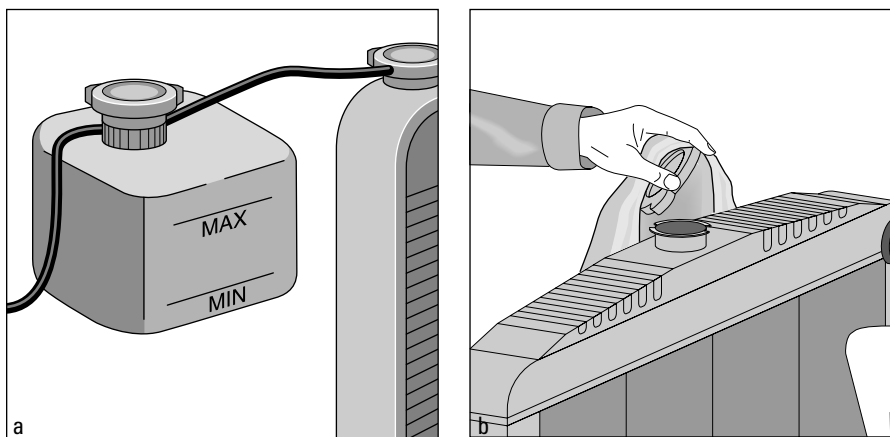

Figure 12-1: A coolant recovery reservoir (a) and a cap being removed safely from a radiator (b).
1. **Don't remove the cap on the radiator unless your vehicle has no plastic coolant recovery reservoir. (These days, almost every vehicle does; Figure 12-1 shows you what one looks like.)**
To keep from burning your hand, place a cloth over the cap after you raise the lever (see Figure 12-1). Then turn the cap counterclockwise to remove it.
Look at the *outside* of the reservoir to see where the level of the liquid in it lies relative to the “MAX” and “MIN” lines embossed on the side (refer to Figure 12-1).